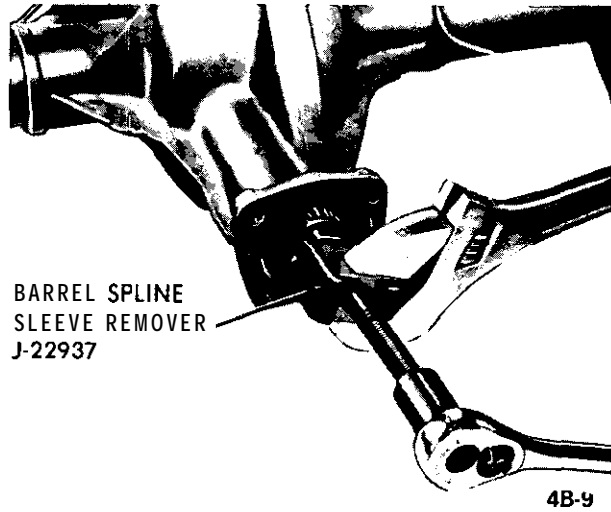

Figure 4B-9 Removing Barrel Spline Sleeve
5. Remove rear pinion bearing using Special Tool J-22912. See Figure 4B-10.